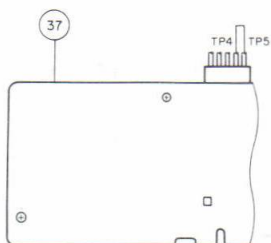

Fig. 24
2. Insert the test connector into the 5P Plug (CN4) of the Control PWB Ass'y (37) and short circuit TP4 and TP5 on the test connector. (Figure 24)